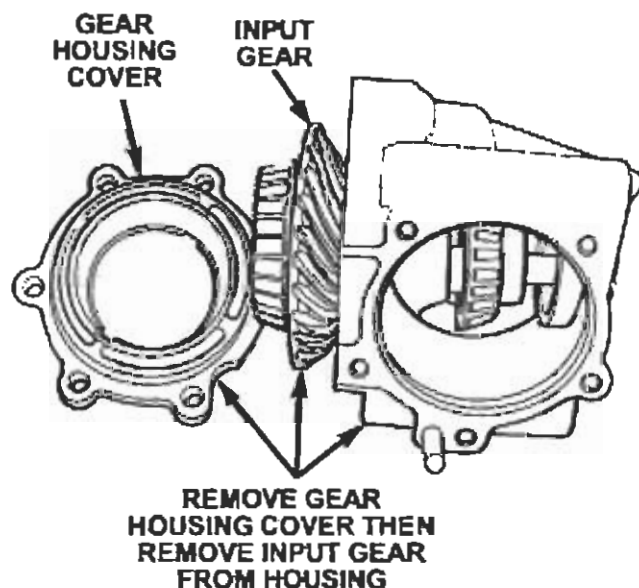

Figure 12
27. Remove the input gear from the gear housing (Figure 12).